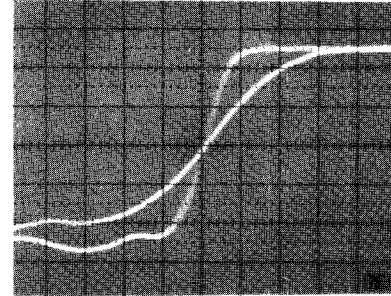

Figure 11. Propagation Delay Measurement
11. Adjust TIME INTERVAL START and the associated vertical POSITION control to place the 50% amplitude point of the beginning trace at the center vertical graticule line. See figure 11.